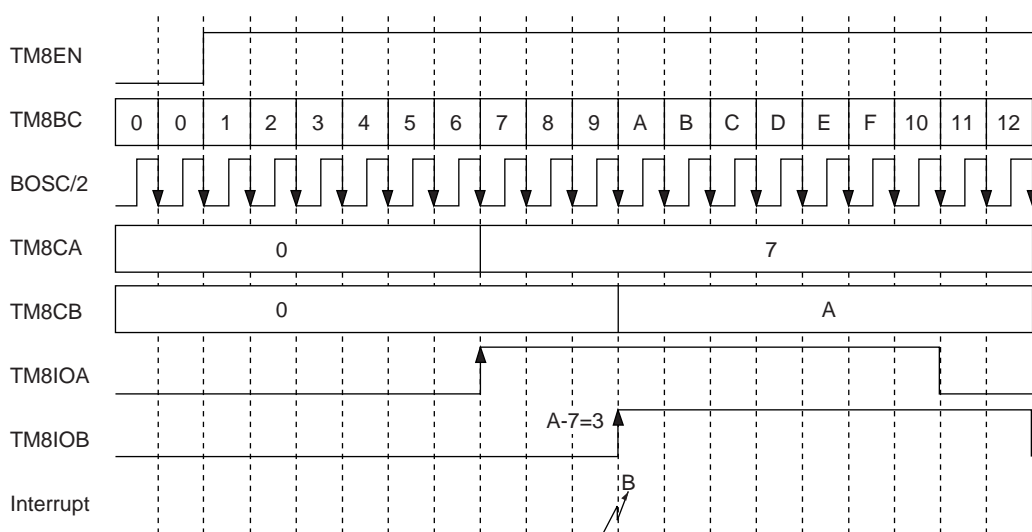

Figure 4-4-12 Two-phase Capture Input Timing (16-bit Timer)
- (5) Execute the interrupt service routine. The interrupt service routine determines the interrupt group and factor, and clears TM8BIR flag.
- (6) Calculate the signal width. Save the TM8CA value and the TM8CB value to the data registers (DR0 to DR3), and subtract the TM8CA value from the TM8CB value. The width will be calculated correctly even if the TM8CA value is greater than the TM8CB value by setting TM8LP to 0. Figure 4-4-12 shows 000A-0007=0003, or 3 cycles.
Timer 8 functions as a one-phase capture input. Select up counting. Timer 8 does not operate stably when BOSC stops (in STOP mode). All external inputs are sampled on BOSC (synchronized with BOSC) when the external clock operates. The TM8CA register is captured on the rising edge of TM8IOA pin, and the TM8CB register is captured on the rising edge of TM8IOB pin. A capture B interrupt is generated on the TM8CB capture, and the TM8CA and TM8CB values are read during the interrupt processing routine. Figure 4-4-12 shows 000A-0007=0003, or 3 cycles. The same result is obtained even if the TM8CA value is greater than the TM8CB value. For example, 0003-FFFE=0005. The signal width is calculated by ignoring flags.